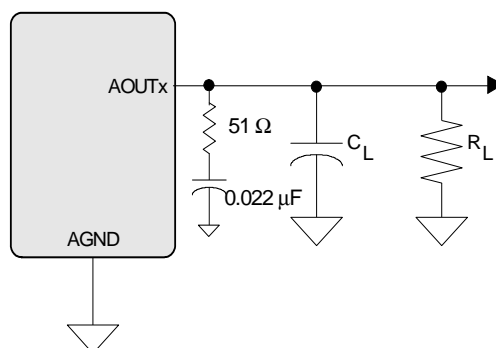

Figure 2. Headphone Output Test Load
5. See Figure 2. R_L and C_L reflect the recommended minimum resistance and maximum capacitance required for the internal op-amp's stability and signal integrity. In this circuit topology, C_L will effectively move the band-limiting pole of the amp in the output stage. Increasing this value beyond the recommended 150 pF can cause the internal op-amp to become unstable.
Test conditions (unless otherwise specified): Input test signal is a full-scale 997 Hz sine wave; Sample Frequency = 48 kHz; Measurement Bandwidth is 20 Hz to 20 kHz; Test load $R_L = 16\Omega$, $C_L = 10\text{ pF}$ (see Figure 2); "Required Initialization Settings" on page 32 written on power up.
Test conditions (unless otherwise specified): Input test signal is a full-scale 997 Hz sine wave; measurement bandwidth is 20 Hz to 20 kHz; Sample Frequency = 48 kHz; Test load $R_L = 10\text{ k}\Omega$, $C_L = 10\text{ pF}$ (see Figure 2); “Required Initialization Settings” on page 32 written on power up.